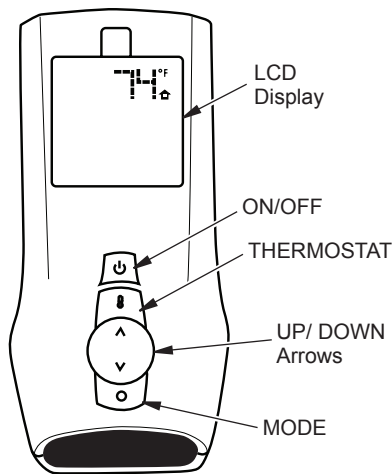
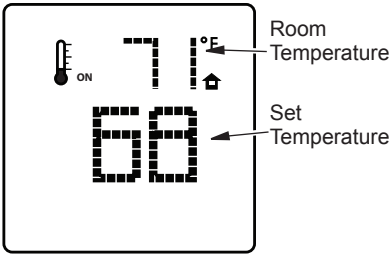

Figure 32 - Hand-Held Remote Control
Figure 34 - Room Temperature Setting
- Select manual flame height function by pressing MODE button on remote until a flame is shown in lower left corner of display. Use the UP/DOWN arrow button to set desired flame height (see Figure 32, page 20).
Push ON/OFF button and burners will come on in high position (see Figure 32). A beep from the receiver confirms the command.
This function allows you to control the height of the flames through 5 levels. Select manual flame height function by pressing MODE button until a flame is shown in lower left corner of display. Use the UP/DOWN arrow button to set desired flame height (see Figure 32). A beep from the receiver confirms the command.
To activate, press THERMOSTAT button on remote control (see Figure 32). The word ON will appear to the right of temperature bulb graphic on display (see Figure 34, page 21). Use UP/DOWN arrow button to set desired room temperature. Control system will cycle fireplace on or off to maintain selected temperature.